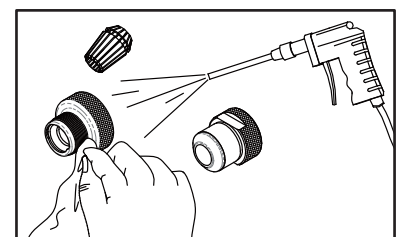
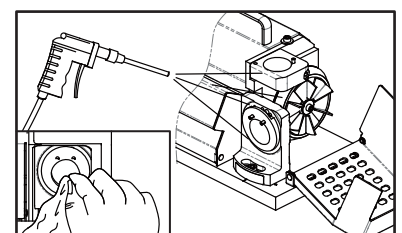

Fig. 10-4
Fig. 10-5
① Unplug the power cord and make sure the power is off.
② Disassemble the chuck set after use.
③ Use the air press gun to clean the scraps and dust out of all grinding shelves and all the accessories. (Fig. 10-4, Fig. 10-5)
(Fig. 10-4, Fig. 10-5)